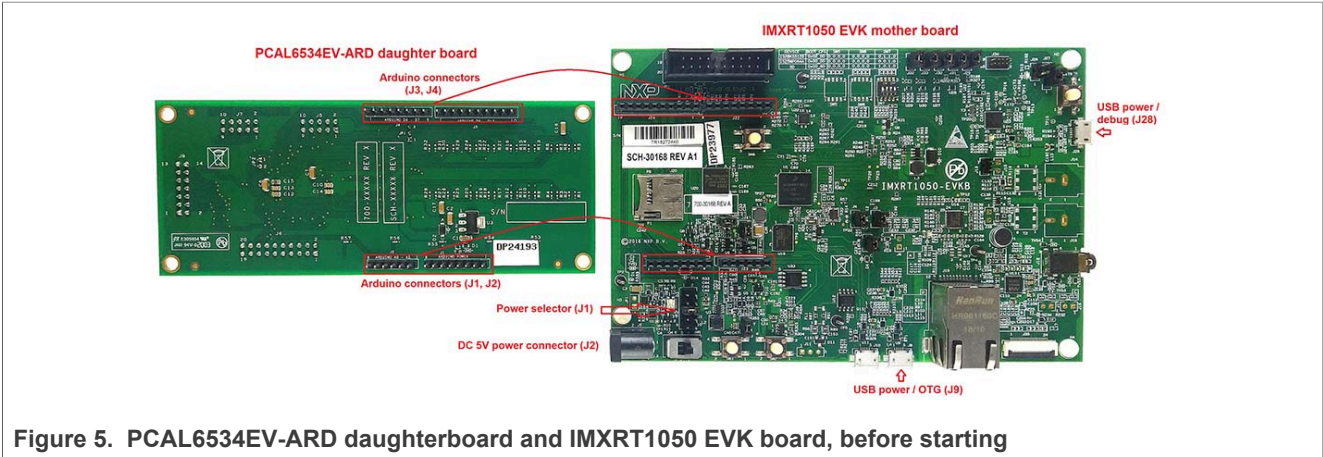

Figure 5. PCAL6534EV-ARD daughterboard and IMXRT1050 EVK board, before starting
Figure 5 shows the required hardware for operation of the PCAL6534EV-ARD daughterboard with IMXRT1050 EVK. The following items are necessary:
From J1 on the EVK board (see Figure 5) the user can select the power configuration for the motherboard. For further details, download the IMXRT1050 EVK Board Hardware User Guide (MIMXRT1050EVKHUG.pdf) available here (link to be set).
2. Insert the PCAL6534EV-ARD daughter card on the Arduino connector of the EVK (see Figure 5).